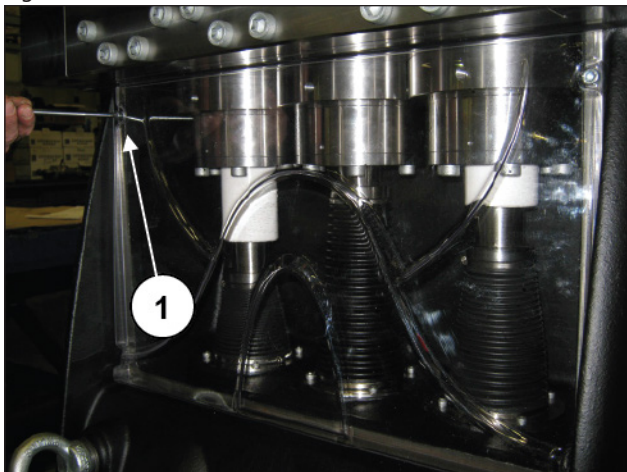
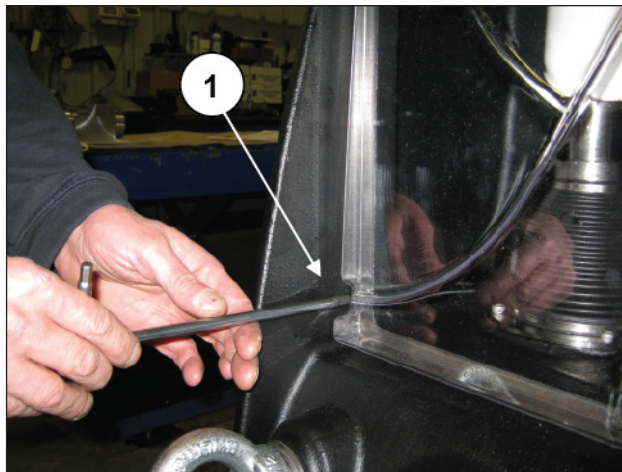

Fig. 200
Fig. 201
To gain access to the piston unit undo the 4 M6 screws and remove the upper inspection cover (pos. ①, Fig. 200 and Fig. 201).